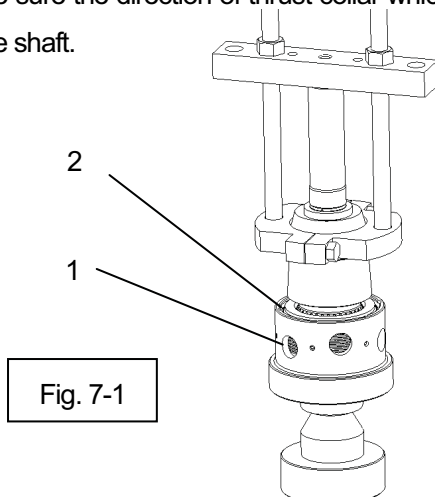

Fig. 7-1
Remove the inner races of tapered roller bearing with thrust collar by bearing extractor (Fig. 7-1, item1) along with the arm and threaded rod M16×600(Fig.7-1, item2).